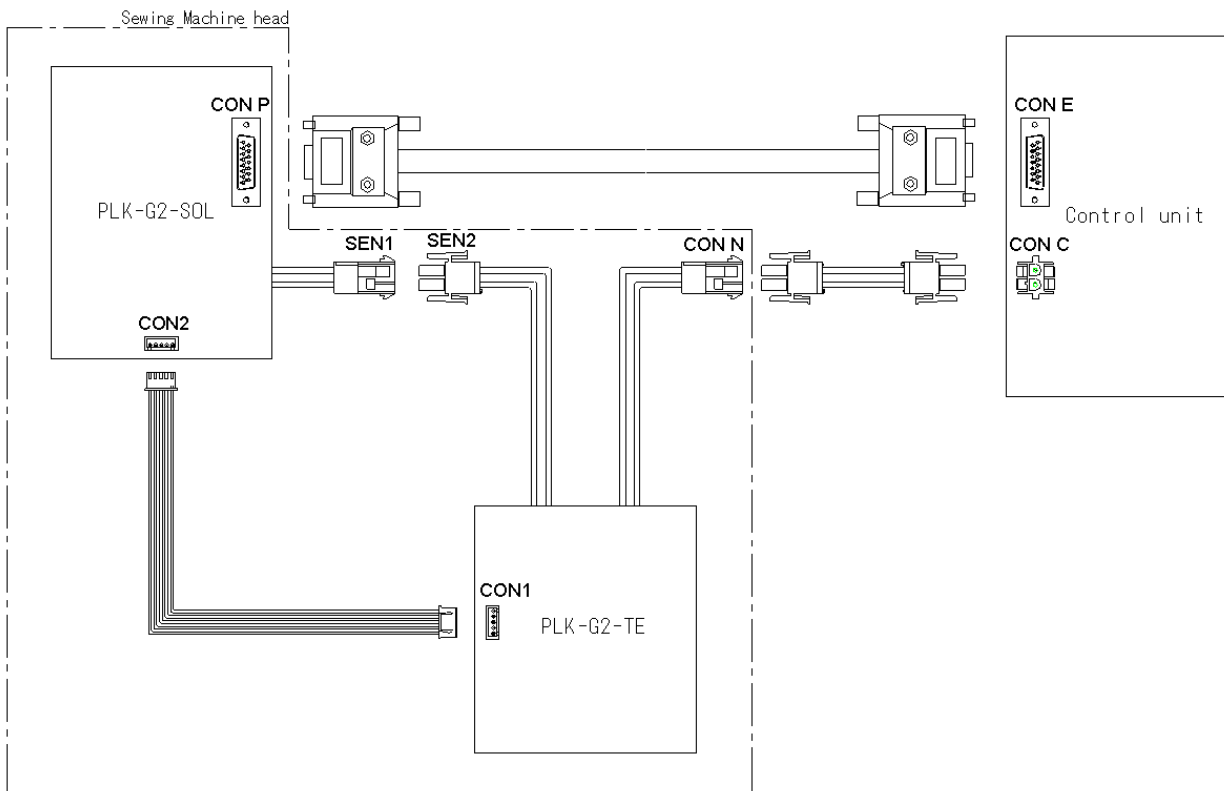

Fig.2
- (5) Fit the connector into the connector mounting hole on the I/O Expansion Unit "CON N" shown in Figure 2.
- (6) Connect the extension cable and the connector "CON N".
- (7) Connect the connector "SEN 2" of the I/O Expansion Unit and the connector "SEN 1" removed.
- (8) Connect the connector "CON 2" of the circuit board and the signal line of the I/O Expansion Unit.
- (9) Install the I/O Expansion Unit with a screw hole that had been fitted with the circuit board cover.